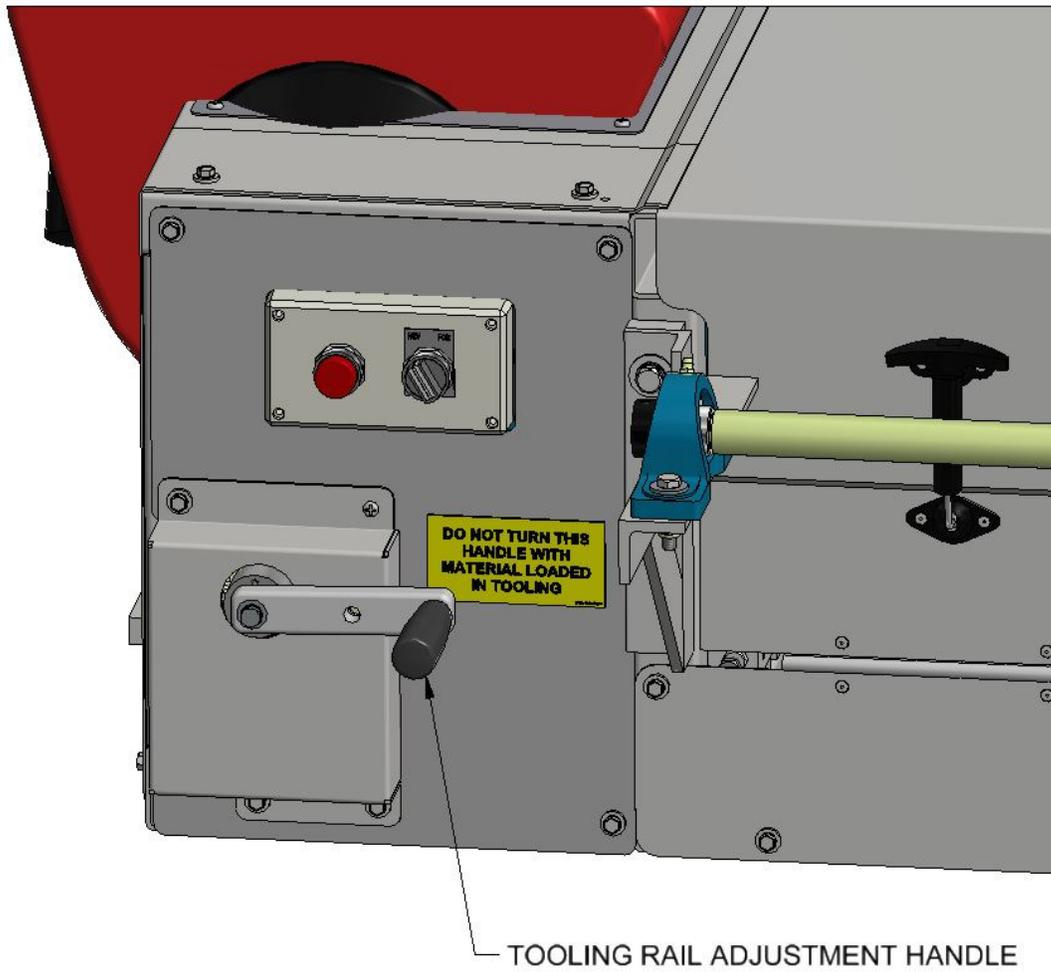
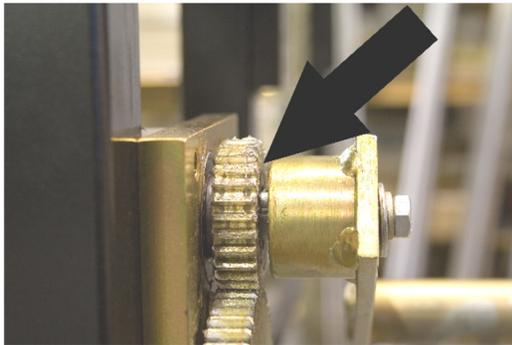
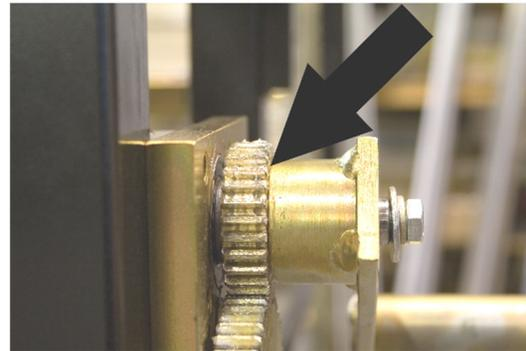

Figure 38: Tooling Rail Adjustment Handle
Figure 39: Disengaged
Figure 40: Engaged
(Figure 38 to Figure 40)
1. Using the Tooling Rail Adjustment Handle (Figure 38) align the notch on the tooling rail marker plate to the alignment notch located on the Left Entry Guide. The Tooling Rail Adjustment Handle is spring loaded to allow it to disengage from the width adjustment gear (Figure 39). Press the handle inward (Figure 40) to engage the width adjustment gear and turn the handle clockwise to move the tooling outward or counter-clockwise to move it inward. Make sure to choose the notch on the marker plate that corresponds to the desired leg configuration as noted on the decal on the marker plate.